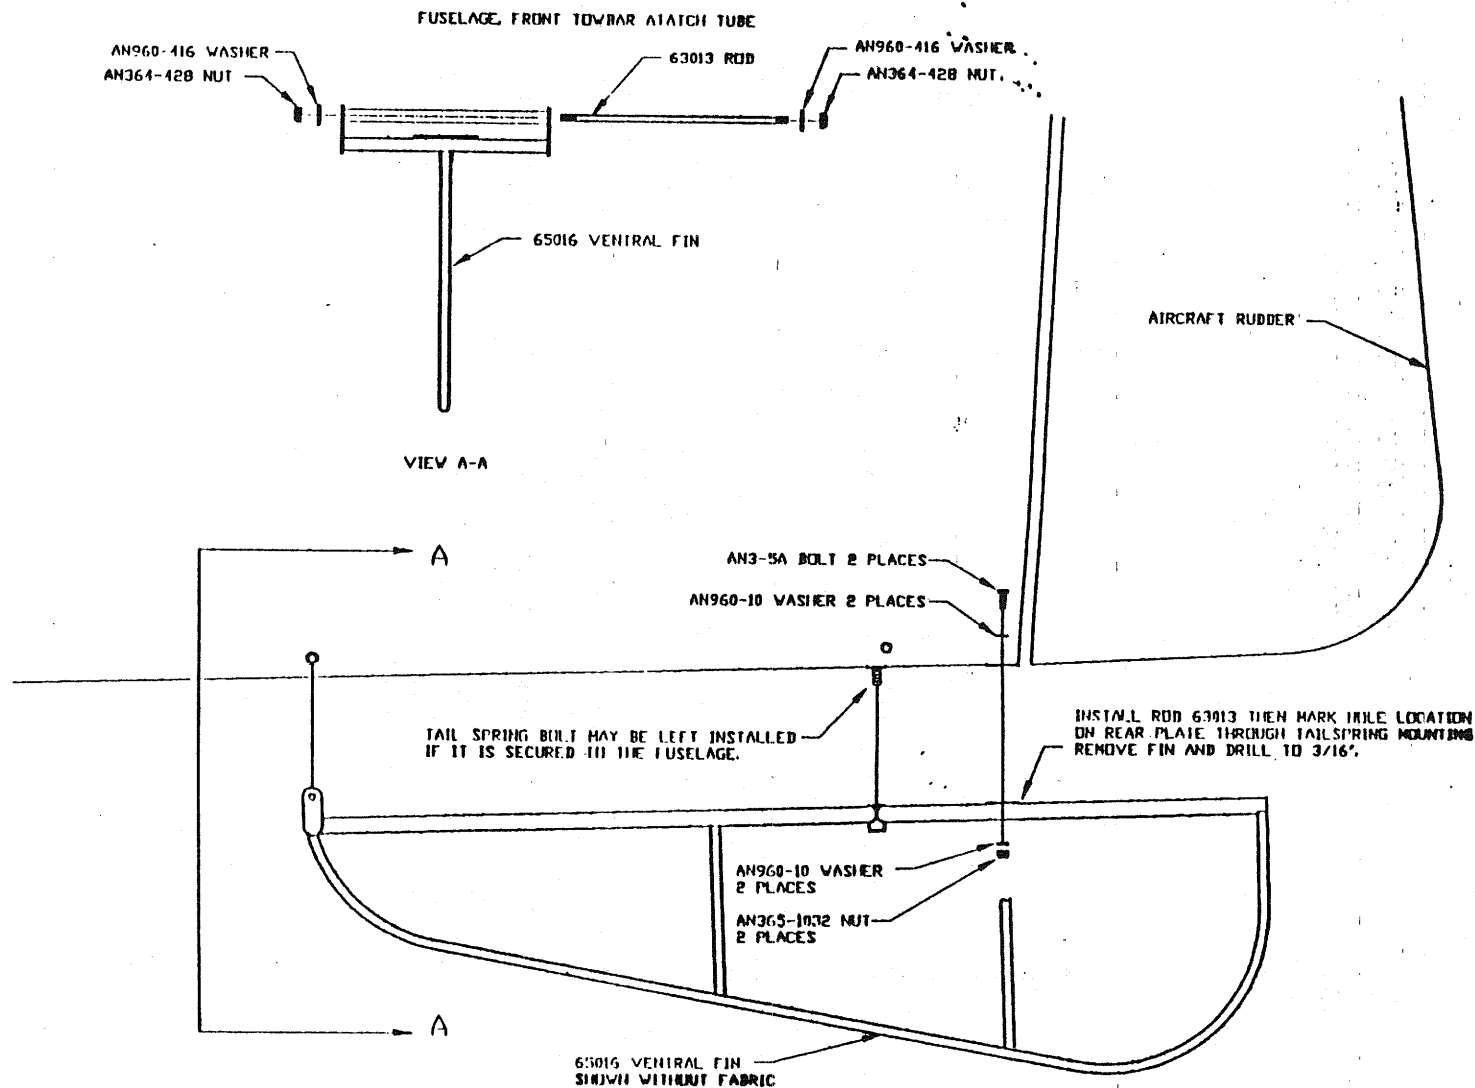

Figure 6
STEP (42): Install the Ventral Fin as shown in Fig. 6.